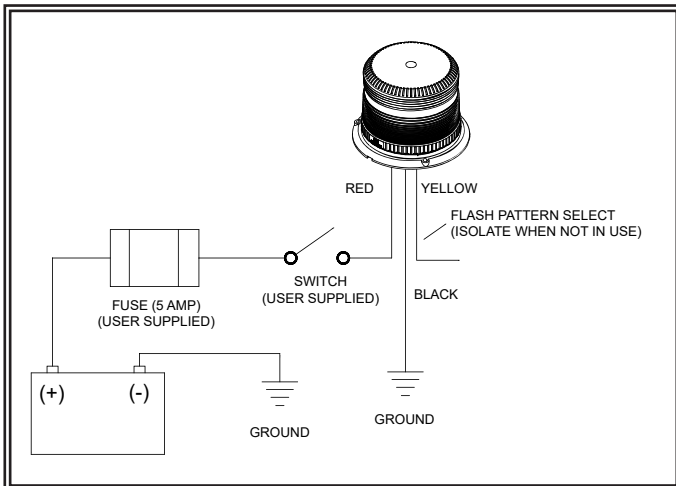

Figure 2
4. Connect the power wires as shown in the wiring section (see Figure 2).
The wiring configuration is shown in Figure 2 below. All wiring should be a minimum of 18AWG. A switch may be used to control the on/off function. The black (negative) wire is connected to the battery ground.